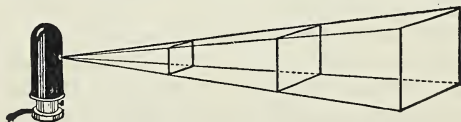

Fig. 234. As light travels away from a lamp, it spreads out and loses intensity at a regular rate. The Law of Inverse Squares.
**Fading with distance.** Light spreads out as it travels away from a lamp. When pictures are thrown on a screen from a projection lantern, the picture becomes larger as the lantern is moved away from the screen. Likewise the picture becomes dimmer as the distance increases, just as your book becomes dimmer as you move it away from the lamp. The light fades at a definite rate which may be calculated. If a beam of light from a lantern 1 yard from a screen forms a square of light just 1 foot on a side, it illuminates 1 square foot. If the lantern is moved 2 yards from the screen, the light will cover a square 2 feet on a side or 4 square feet. Thus at twice the distance the light covers 4 times as much area and the illumination will be one fourth as intense. If the lantern is moved 3 yards from the screen, the beam of light will cover a square 3 feet on a side or 9 square feet, and the illumination will be one ninth as intense. *The intensity of the light varies inversely as the square of the distance.* This statement is known as the *law of inverse squares* (Fig. 234).